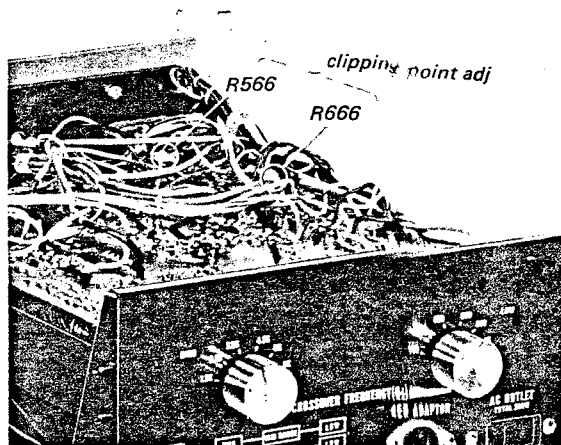

Fig. 3-6 Parts location
2. Adjust potentiometer R566 (R666) (semifixed resistor) See Fig. 3-6, so that the positive and negative peaks of the output waveform are simultaneously clipped.